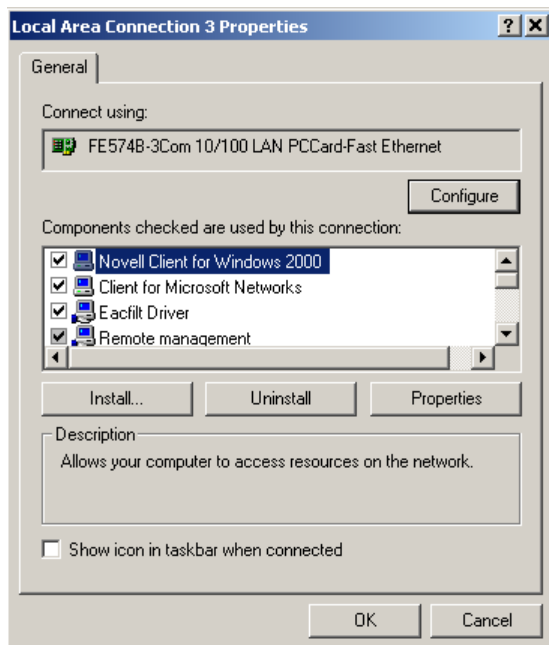

Figure 4.34a: Ethernet Adapter Properties
- b. Select the Ethernet adapter you have connected the Ethernet cable to and click on that connection to open it's configuration dialog box (Fig. 4.34a).